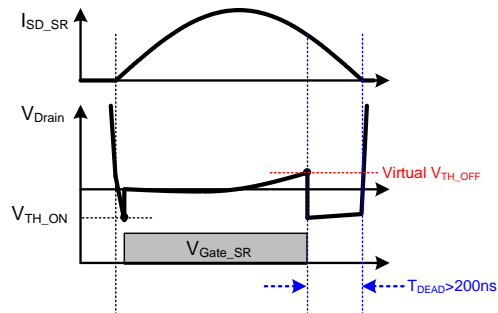
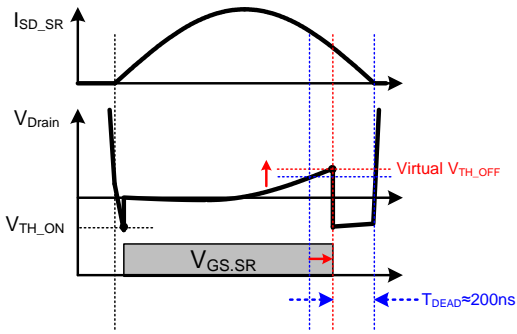

Figure 19. Premature SR gate turn-off ($T_{DEAD} > t_{DEAD_H}$)
Figure 20. Dead time control to maintain $T_{DEAD} \approx 200ns$
In FAN6248HA(B) version, if a dead time T_{DEAD} is larger than 200ns of t_{DEAD_H} , as shown in Figure 19, V_{offset} decreases by one step in next switching cycle. As a result, the dead time is decreased by increase of virtual V_{TH_OFF} , and becomes close to t_{DEAD_H} , as shown in Figure 20. If the dead time is smaller than t_{DEAD_H} , the dead time is increased by the virtual V_{TH_OFF} decrease. Thus, the dead time is maintained at around t_{DEAD_H} regardless of parasitic inductances.